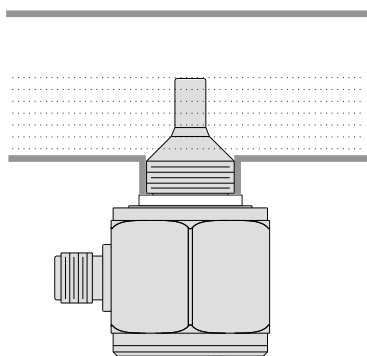

Fig. 3
3. For not-fully-filled pipes, SP is requested to be installed underneath. Liquid level needs to be higher than the probe height. (Fig. 3)